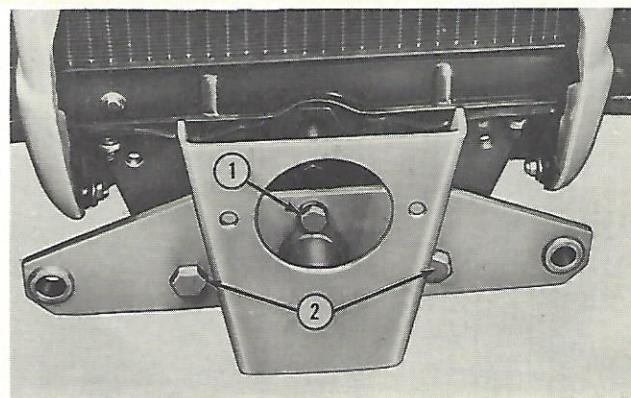

Figure 9
Attach the pump mounting plate to the tractor front support with a $5/8'' \times 1-3/4''$ hex head bolt and lock washer at (1), Figure 9. Install two $3/4'' \times 2''$ hex head bolts, lock washers, and nuts at (2).